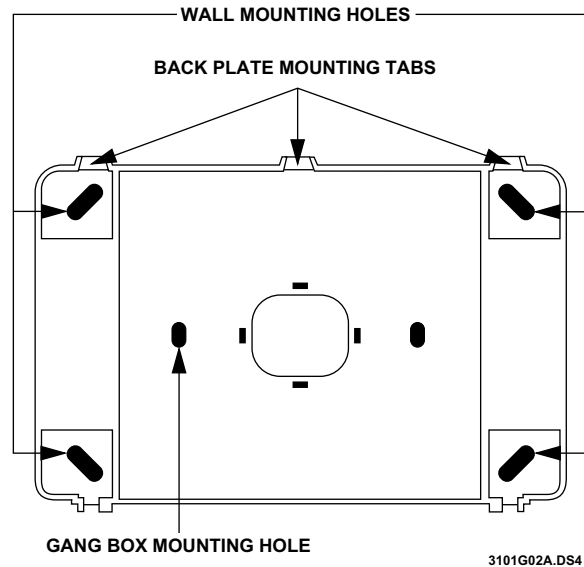

Figure 2. Back Plate and Mounting Holes
2. Place the back plate on the wall and mark the four mounting holes (figure 2). Be sure to leave a 1-inch clearance on all sides of the back plate.
2. Line up the gang box mounting holes with the gang box holes (figure 2).